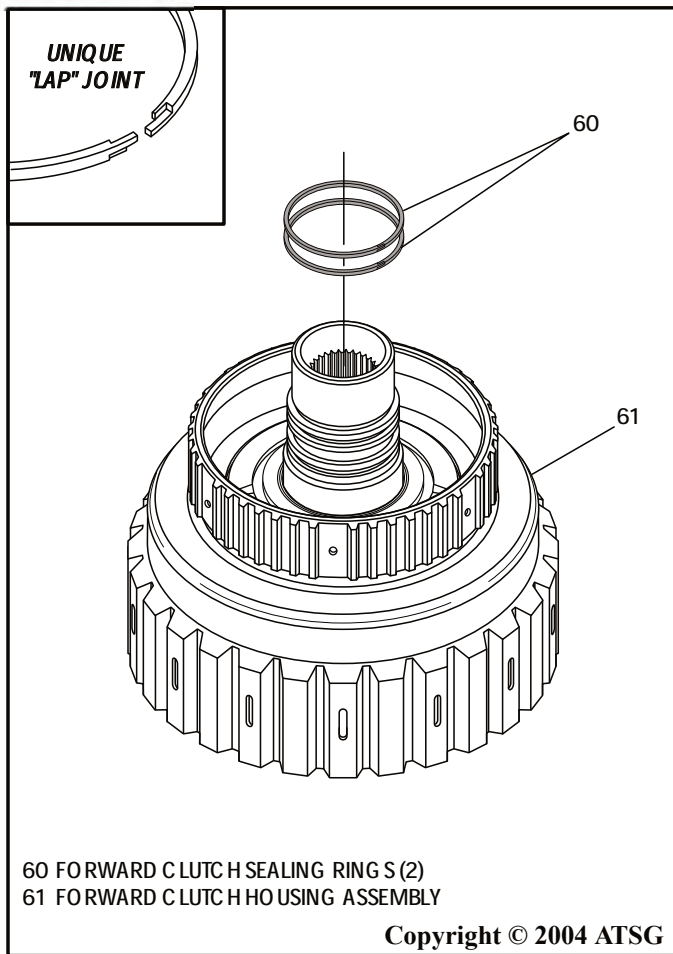

Figure 129
20. Install the two forward clutch sealing rings, as shown in Figure 129.
Note: Notice the unique "Lap" joint of this set of seal rings, as shown in Figure 129.